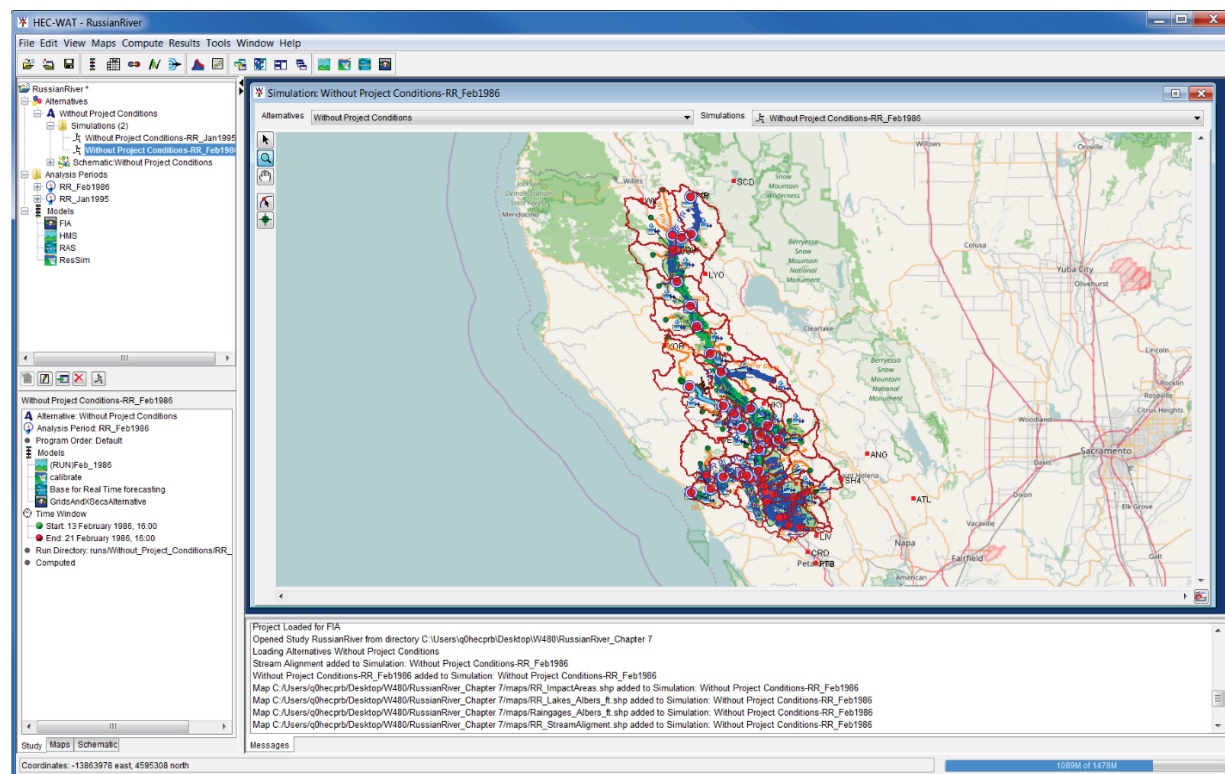

Figure 12.2 HEC-WAT Main Window
To access the **Model Linking Editor** (Figure 12.1), from the HEC-WAT main window (Figure 12.2), from the **WAT Tools** toolbar, click . Alternatively, from the HEC-WAT main window, from the **Edit** menu, click **Model Linking Editor**. From either method the **Model Linking Editor** will open (Figure 12.1).
1. From the HEC-WAT main window (Figure 12.2), from the **WAT Tools** toolbar, click , the **Model Linking Editor** will open (Figure 12.1).